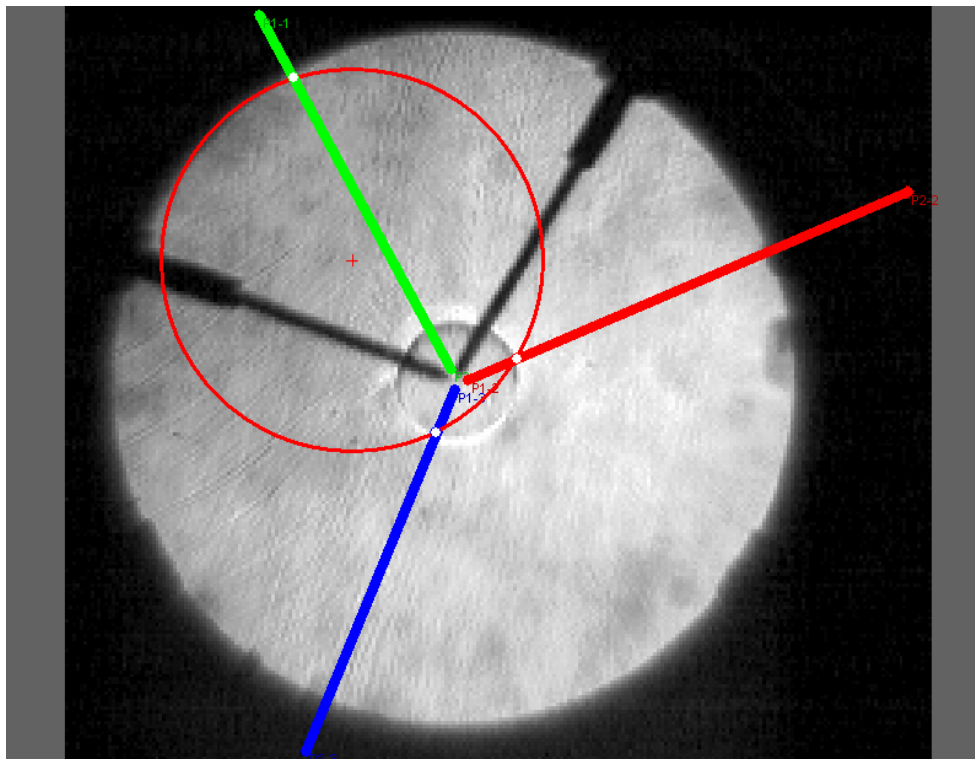

Figure 4
9. As the video tracks forward, it will be obvious that the default settings for the line track are not adequate for the analysis and must be modified. Figure 4 shows frame 10 of the line track.